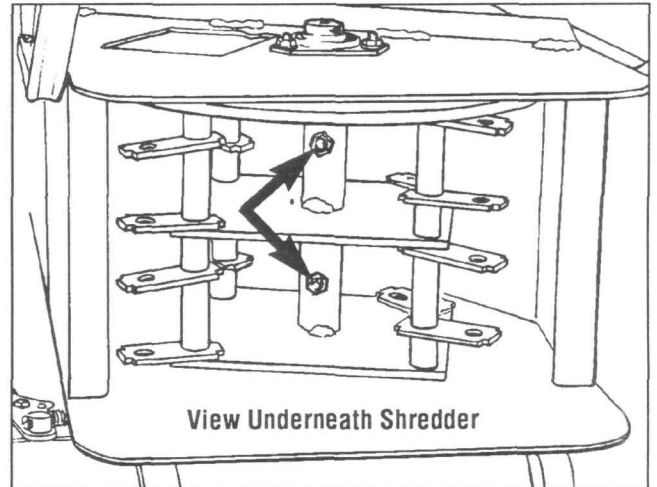

Fig. 9
Remove the broom handle or stick from the shredder hopper. Using a flashlight, look up inside the cylinder chamber and locate the two screws that secure the cylinder assembly tube to the cylinder shaft (see Fig. 9). Being careful to avoid any sharp edges on the cutting flails or other metal parts (wear thick gloves for added protection), rotate the cylinder assembly until the locknuts on the screws are facing down. Remove the locknuts using a 9/16" wrench on the screw heads and a 9/16" socket wrench (with 6" extension adapter) on the locknuts. After removing the locknuts, gently tap the screws out with a long punch or drift pin. Save the screws and nuts for reuse.
C. Spray penetrating oil into the two screw holes in the cylinder assembly tube from which you removed the screws in Step 12 (see Fig. 9).